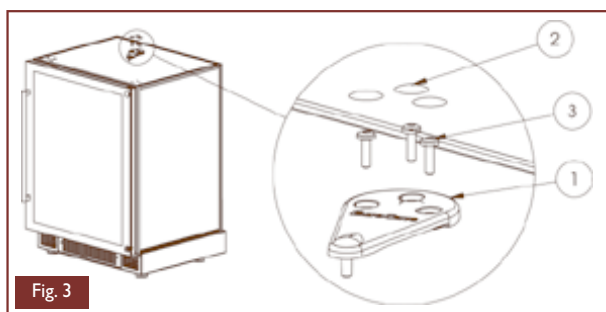

Fig. 3
- Remove the plugs (2) and screws (3) with a T25 Torx screwdriver and lift off the hinge (1) (Fig. 3).